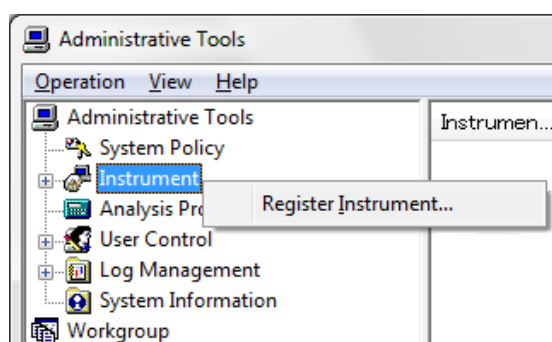

Figure 2.1 [Administrative Tools] window
- (1) Start [Administrative Tools], right-click [Instrument] and select [Register Instrument...] from the shortcut menu to display the window in Figure 2.1.